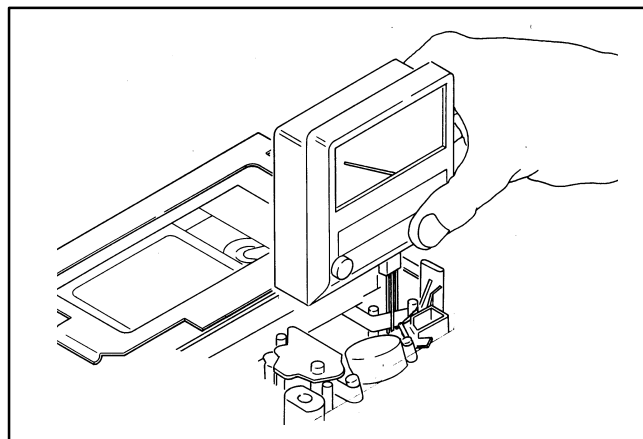

Figure 3-8-3
5. Insert the tension meter to between S4 post and S5 post as shown in figure 3-8-3.
6. Confirm that the tension value is within specification. (Read the meter display from rear side as shown in figure 3-8-3.)